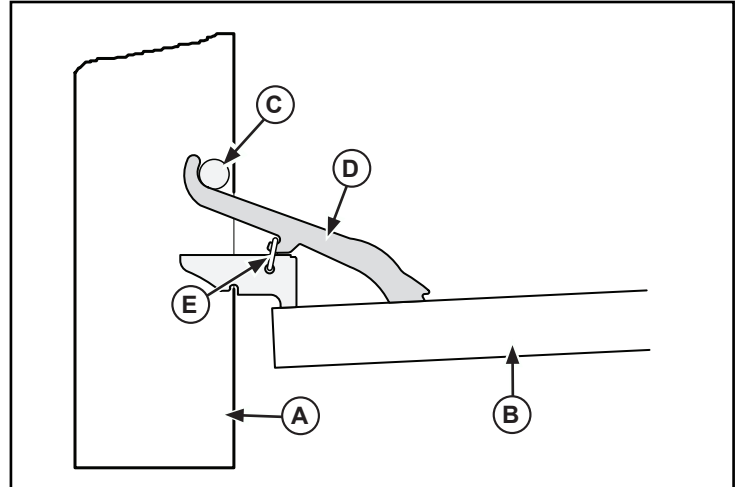

Figure 2. Oven Door and Hinge Lock (up or locked position)
6. Place the hinge lock (E) over the hinge arm (D) as shown. Repeat on both sides. See Figure 2.
30. Rotate the hinge lock (E) off the hinge arm (D) as shown. Repeat on both sides. See Figure 2.